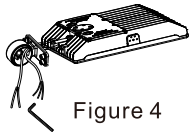

Figure 4
2. DIRECT MOUNTING (DM)
Step 1: Separate the bracket with tool. (Figure 4)